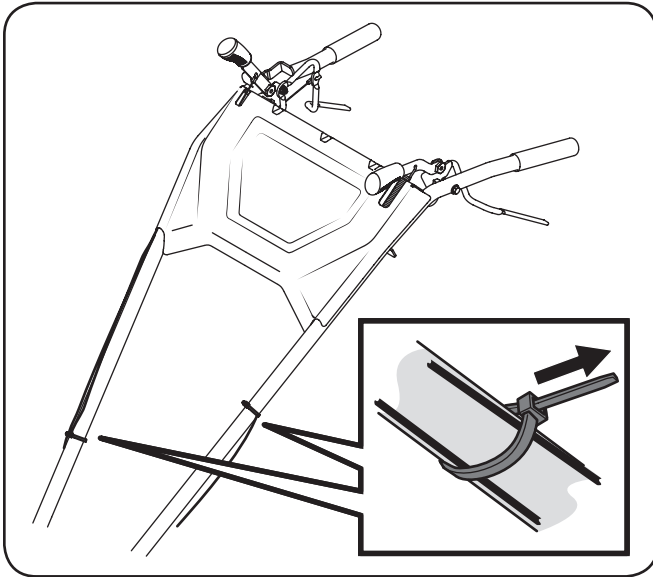

Figure 3-6
- Secure the wires and cables to the handles by using the two cable ties from the hardware pack as shown in Figure 3-6.